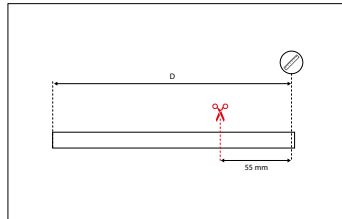

Fig. 28: Shortening the rubber covering
3. Cut the rubber covering on the threaded rod. The length of the rubber covering must be 55 mm shorter than the distance [D] measured in step 1 (Fig. 28)